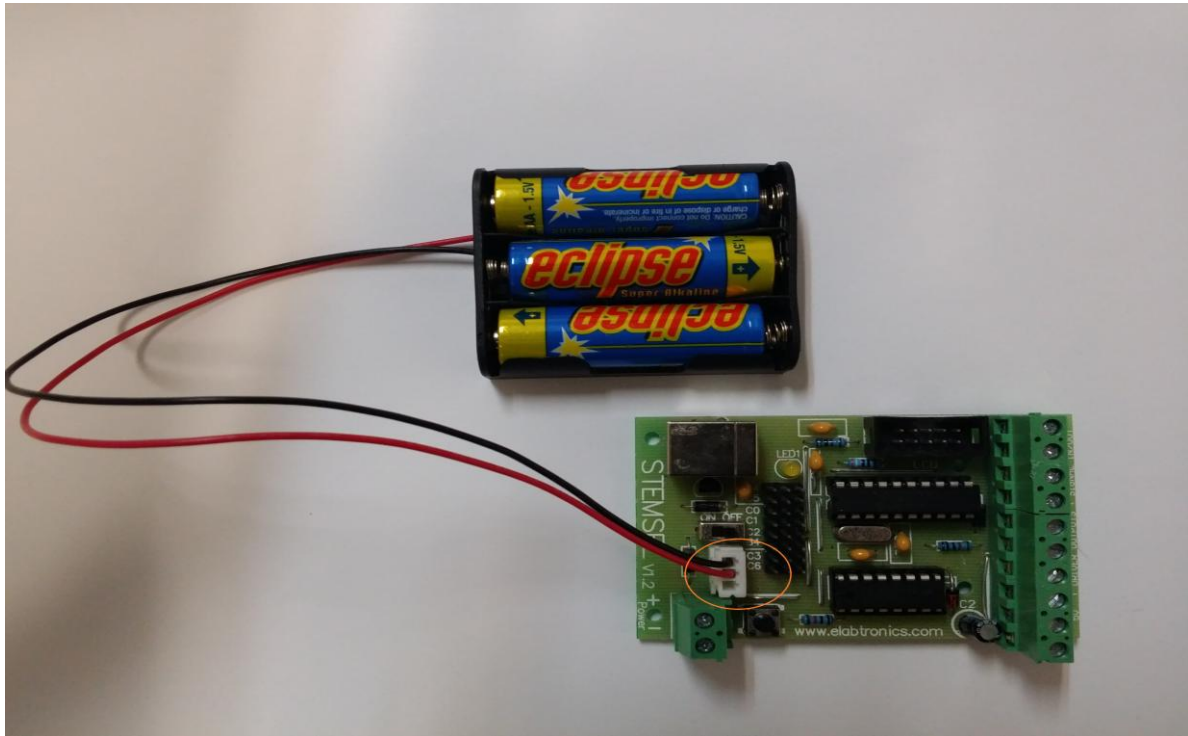

Figure 2.1
- a. Place the three AA batteries into the battery holder and connect the power pack to the white socket (circled in figure 2.1), next to the ON/OFF switch on the STEMSEL controller board.